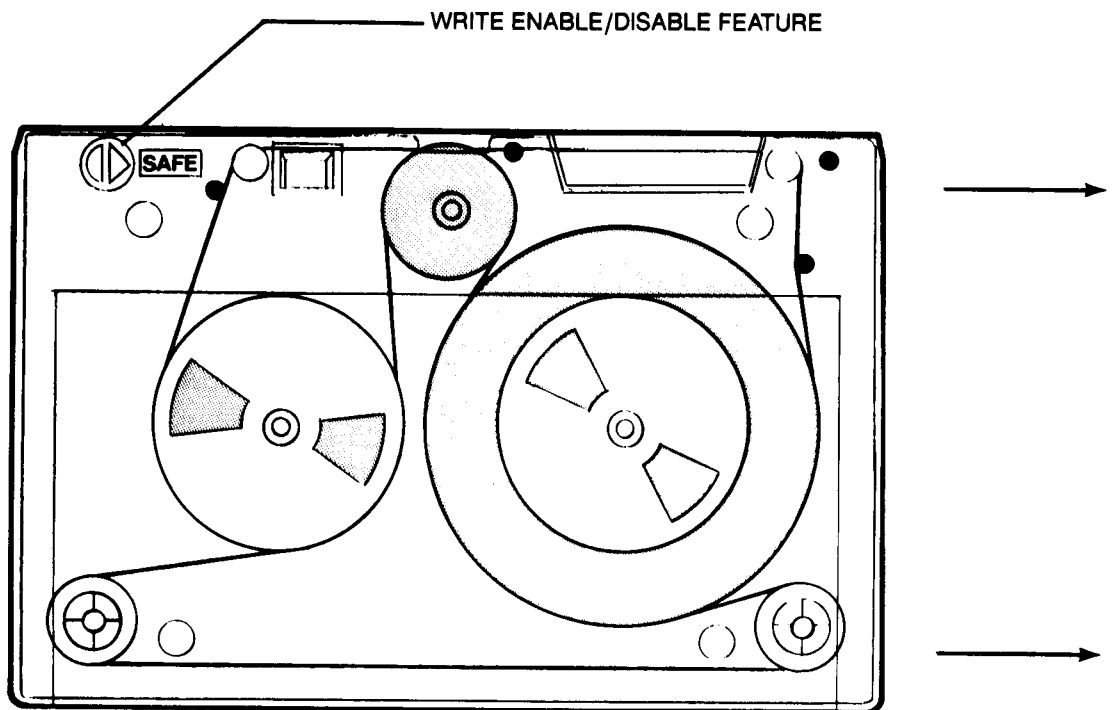

Figure 2-7. Write-Disabled Tape Cartridge
3. Insert the cartridge in the tape drive as directed in Figure 2-7, with its metal plate facing down. Push the cartridge in until it cannot be moved further. Then slide the locking lever as far right as it will go.